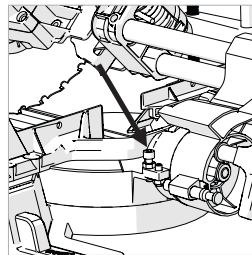

Fig. 23
- Loosen the locknut on the Bevel Angle adjustment screw. (**Fig.23**)